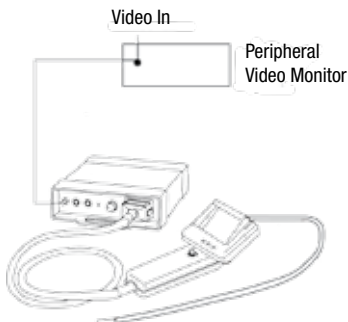

Figure 3
- **Video Output:** The VP300 system provides both Composite video and S-Video output connectors on the front panel of the PLS. Connect to the peripheral device's "Video In" input connector. Video cables are available as accessories. See Figure 3.